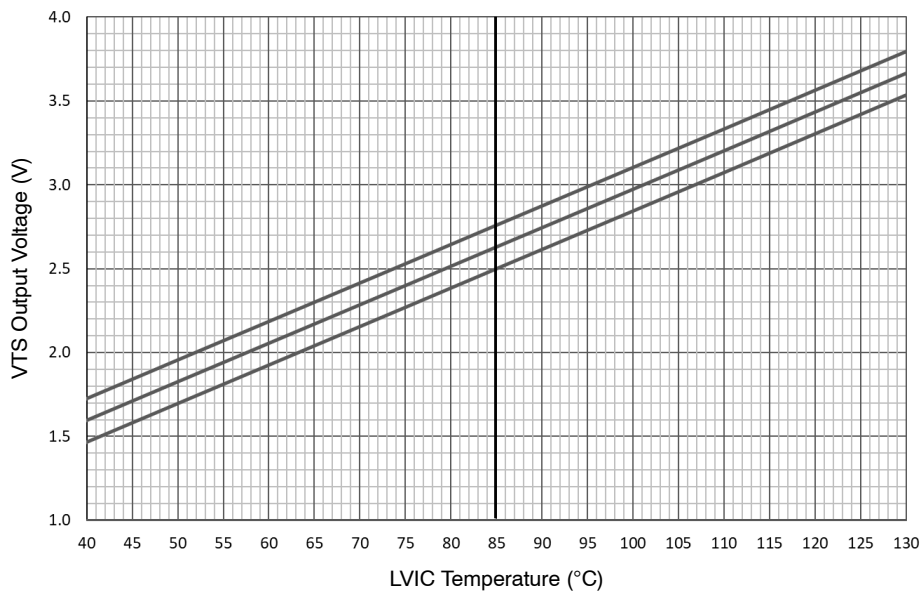
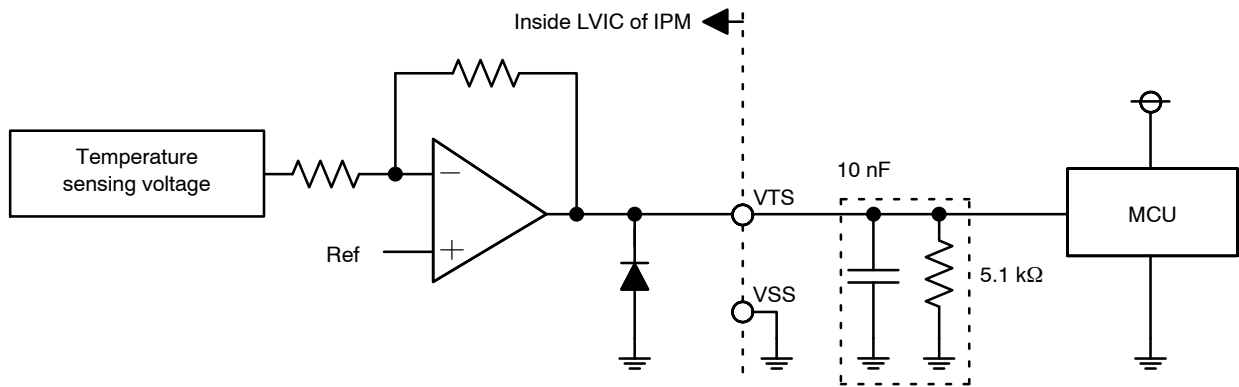

Figure 4. Temperature of LVIC vs. VTS Characteristics
Figure 5. Internal Block Diagram and Interface Circuit of VTS
- TLVIC is the temperature of LVIC itself. VTS is only for sensing temperature of LVIC and cannot shutdown IGBTs automatically. The relationship between VTS voltage output and LVIC temperature is described in *Figure 4*. It is recommended to add 5.1 kΩ pull down resistor between VTS and VSS (Signal Ground) as described in *Figure 5* for linear output characteristics at low temperature. Refer to the application note for usage of VTS.
To avoid malfunction, the wiring of each input should be as short as possible (less than 2-3 cm). Each capacitor should be mounted as close to the pins of the product as possible. VFO output is open-drain type. This signal line should be pulled up to the positive side of the MCU or control power supply with a resistor that makes IFO up to 1 mA. Please refer to Figure 5.